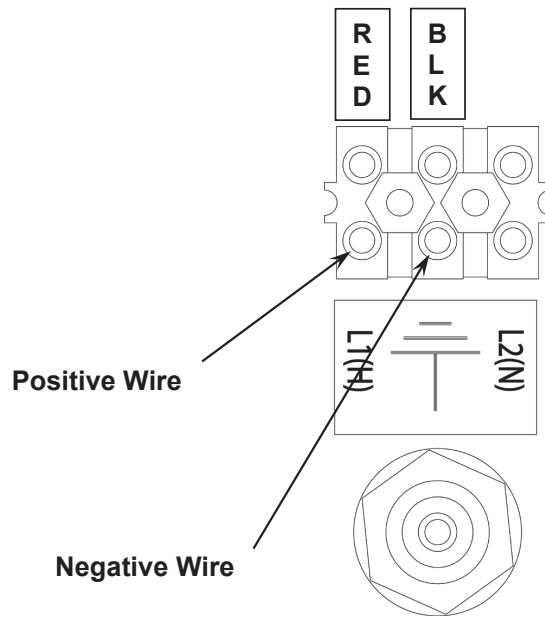

Figure No. 20
Strip $\frac{1}{4}$ " of insulation from each of the power source positive and negative wires. Solder tin each wire. Connect the positive (+) voltage source wire to the terminal marked L1(H) on the terminal block as shown below. Connect the negative (-) voltage source wire to the terminal marked GND on the terminal block as shown in Figure No. 20 below.